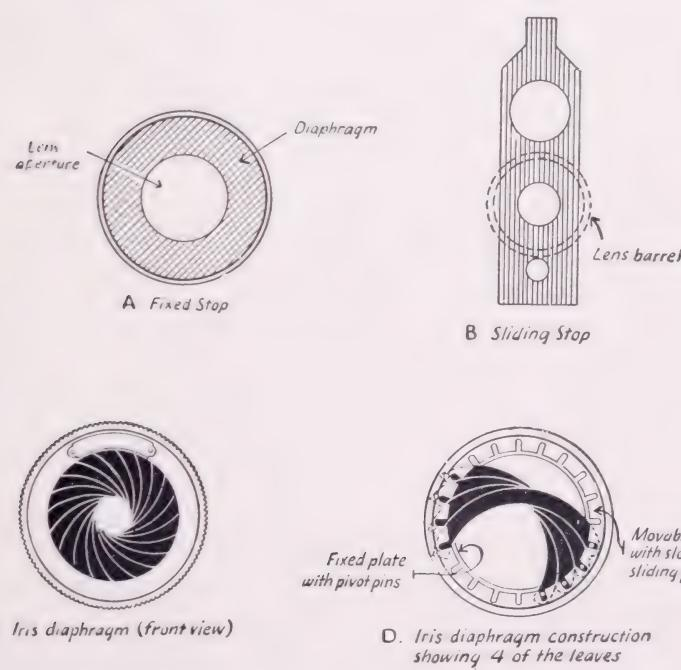

FIG. 38. THE KINDS OF DIAPHRAGMS OR STOPS
Only three different types of stops are used in modern cameras. These are: (1) the fixed stop, (2) the sliding stop and (3) the iris diaphragm. (See *Fig. 38*.)
The Iris Diaphragm is a variable stop, rather ingeniously constructed, which is used in almost all other types of cameras. It consists of a number of curved leaves cut out of thin sheet metal overlapping each other and each pivoted to the inner circumference of the barrel of the lens. These leaves all work together, and by moving the knurled rim of the lens mount they can be made to slide back to the wall of the barrel, like the leaves of a fan. In this position they are wide open and give the lens its largest stop. By moving the rim the other way, the leaves close and you can reduce the opening to any size you want. The diagram, *Fig. 38 D*, illustrates the principle upon which it works.